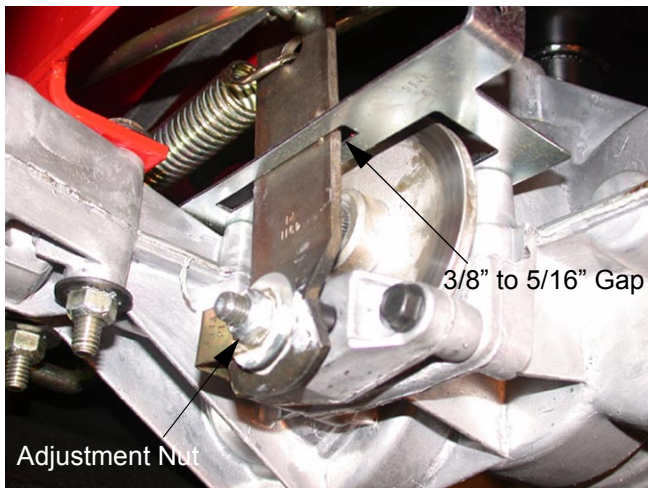

Figure 29
**NOTE:** With the operator presence control released there should be a 3/8" to 5/16" gap between the back of the brake arm and the bracket. See Figure 29.